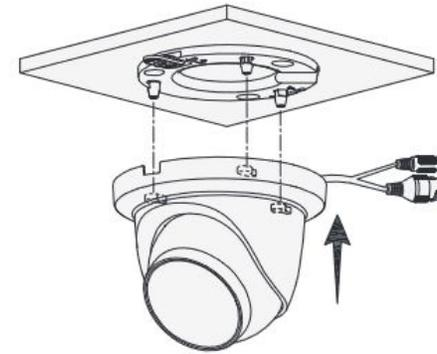

Figure 2-3
**Step 3** Install the camera to the base, lining up the locking tab position.. See Figure 2-3.